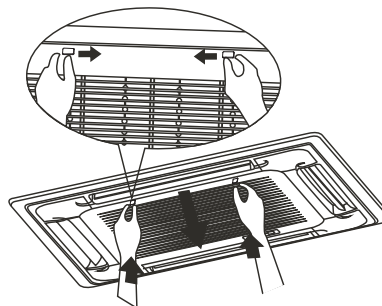
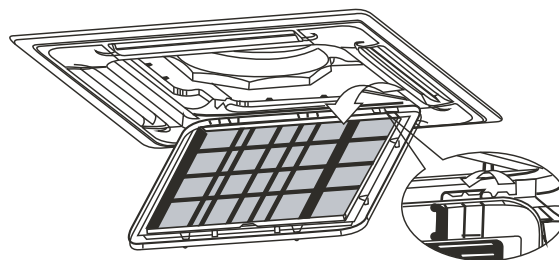

Figure 12.1
Figure 12.2
- ♦ Push the grille switches simultaneously, as indicated in Fig.12.1. Then pull down the air intake grille (together with the air filter, as shown in Fig.12.2). Pull the air intake grille down to 45°, and lift it up to remove the grille.